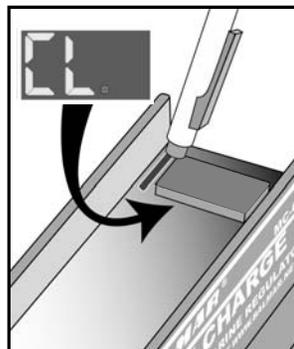

Figure 16 - Indicates Compensation Limit mode.
1. **ACTIVATE-HOLD** switch when “CL” is displayed (see Figure 16). Value 14.8 will be highlighted. Display will scroll upward. **RELEASE** when desired value is shown.